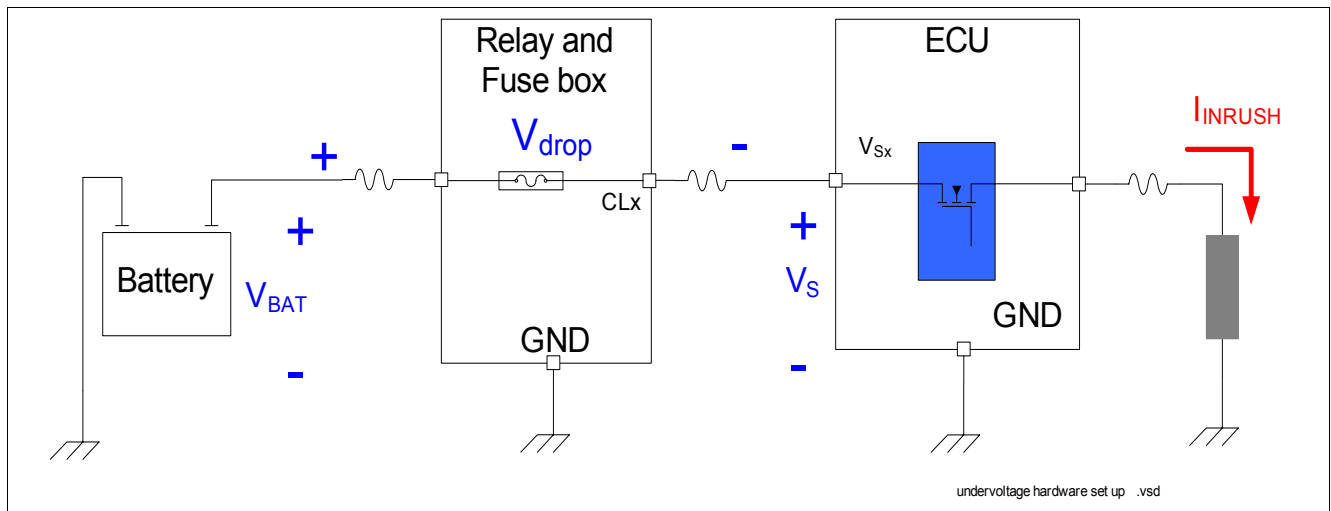

Figure 62 Low Battery Voltage Condition. Inrush and Inductive Wiring Influence
During a low battery condition, a parasitic under-voltage turn OFF could occur, especially if a capacitive load with  $I_{INRUSH}$  peak current has to turn ON or if there is a short circuit to GND. Since the wiring is inductive,  $I_{INRUSH}$  will produce a  $V_{DROP}$  voltage. Refer to Figure 62.  $V_{DROP}$  can be estimated by Equation (13).